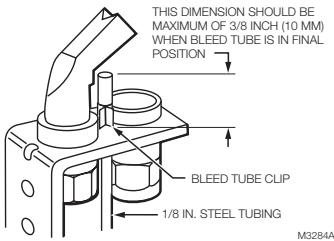

Fig. 6. Bleed gas tube installation.
2. Push clip into place. See Fig. 6.